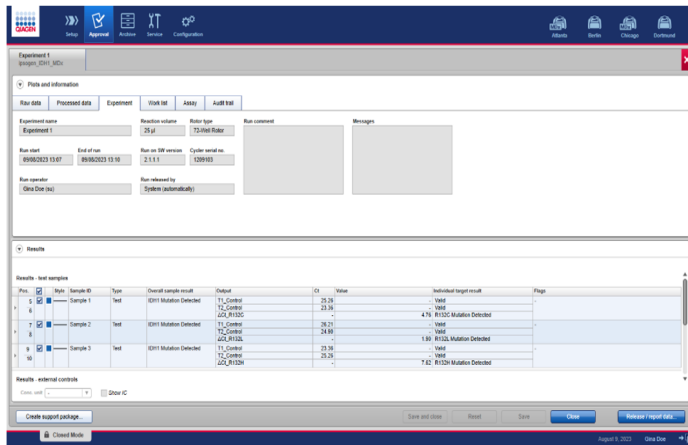

Figure 18. Sample results window.
17. If the Sample Control results are within an acceptable range, the “Overall sample result” column will report either “No Mutation Detected” or “IDH1 Mutation Detected” (Figure 18). This indicates that the sample DNA concentration is suitable for mutation analysis.